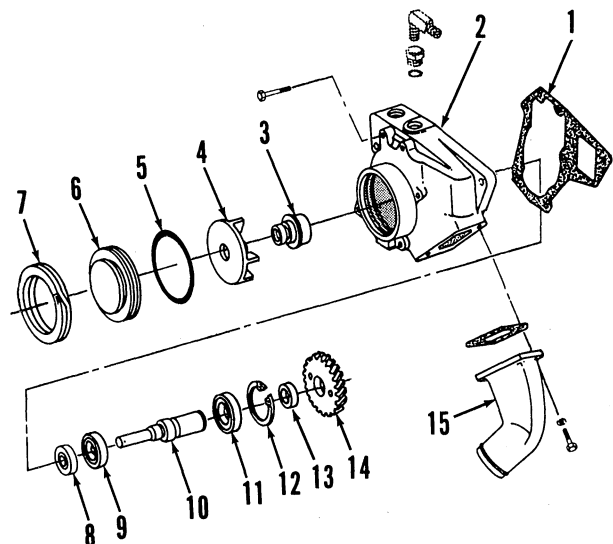

Fig. 63—Exploded view of water pump assembly.
To disassemble pump, remove pump drive gear (14—Fig. 63) using a suitable gear puller. Remove spacer (13) and snap ring (12) from rear of pump. Remove retaining ring (7) from front of pump, then pry front cover (6) from pump housing. Press pump shaft (10) rearward out of impeller and housing. Drive seals (3 and 8) out of pump housing.